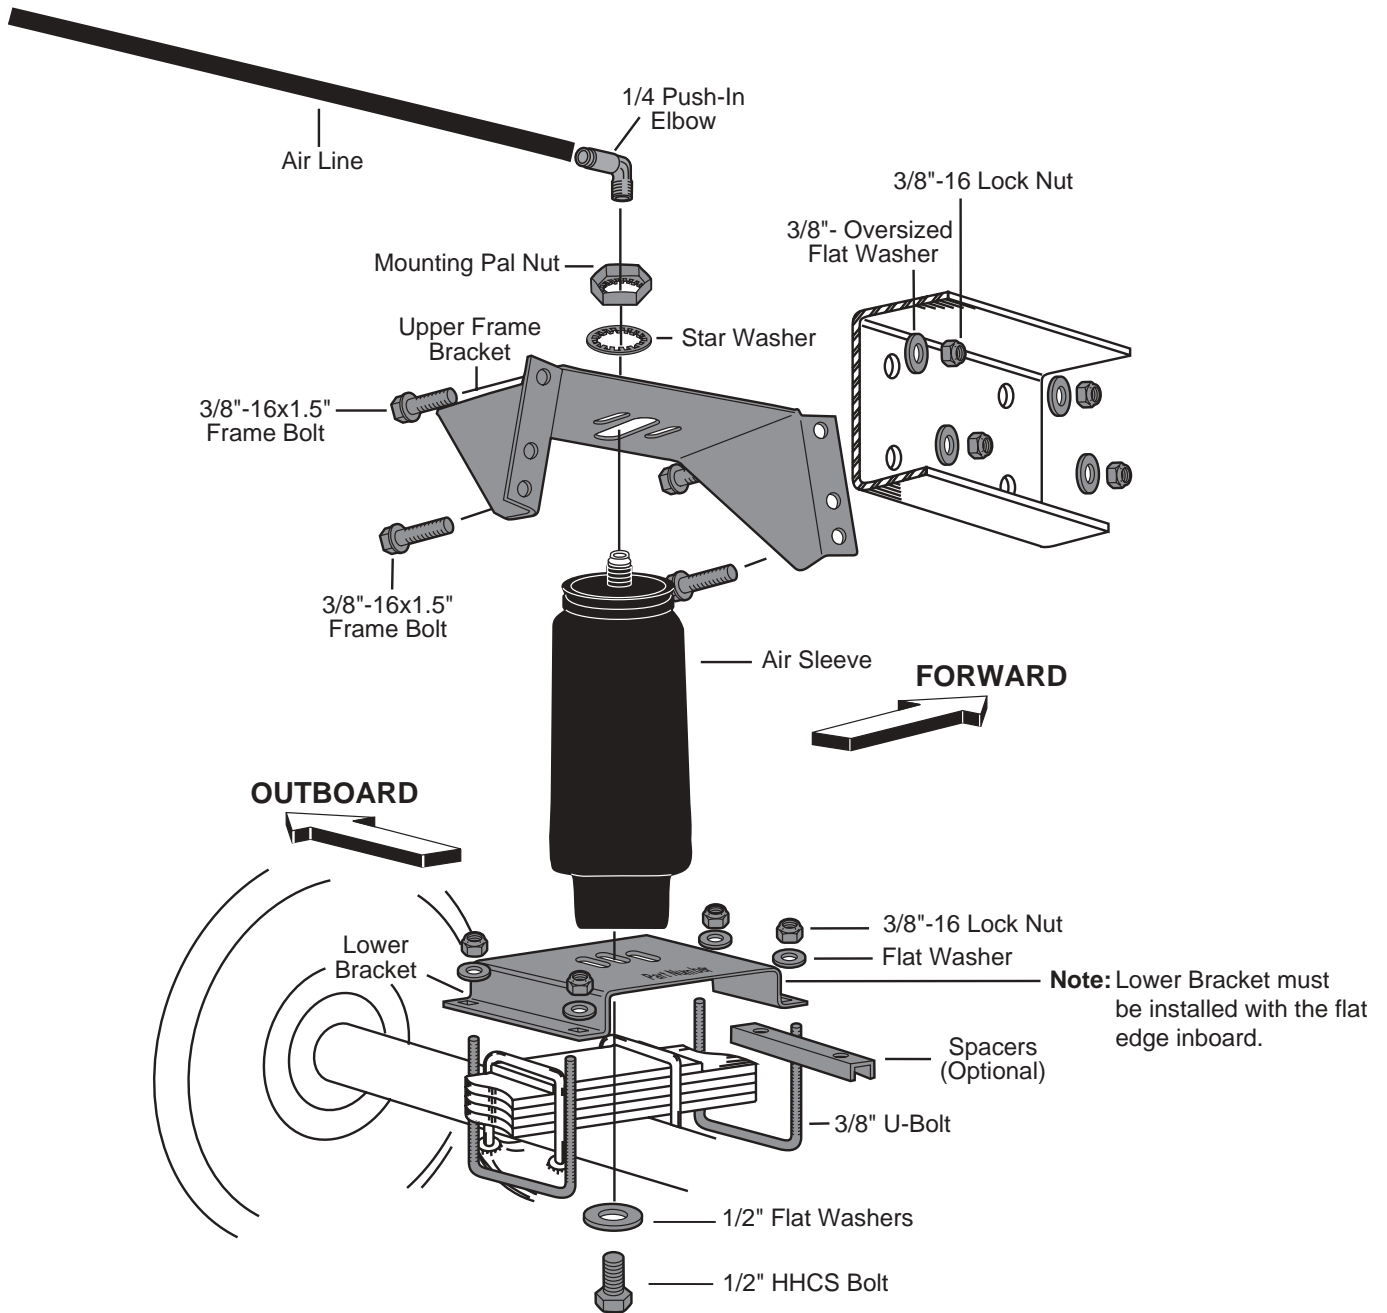

Figure 1
**6. Set the assembly on the leaf spring centered over the axle and attach the lower bracket as shown in Figure 1 using the UBolts, flat washers and lock nuts. Tighten nuts to 20 ft-lbs.**